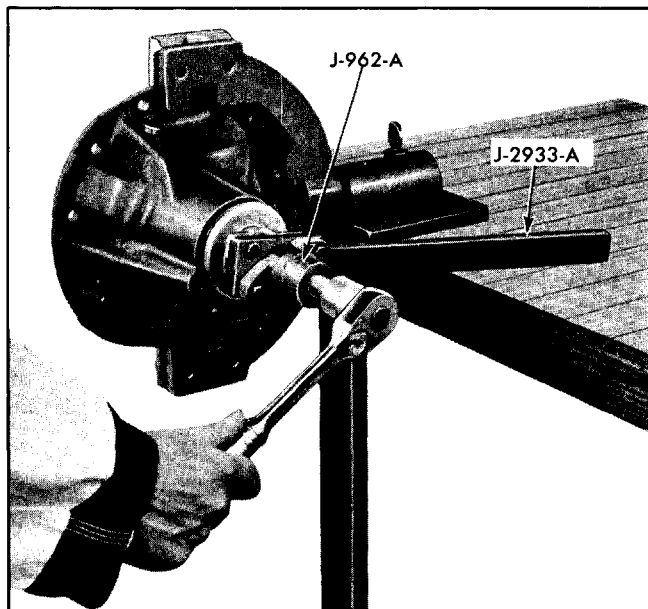

Fig. 4-30 Removing Companion Flange
6. Remove companion flange using Puller J-962-A and Holding Tool J-2933-A (Fig. 4-30).